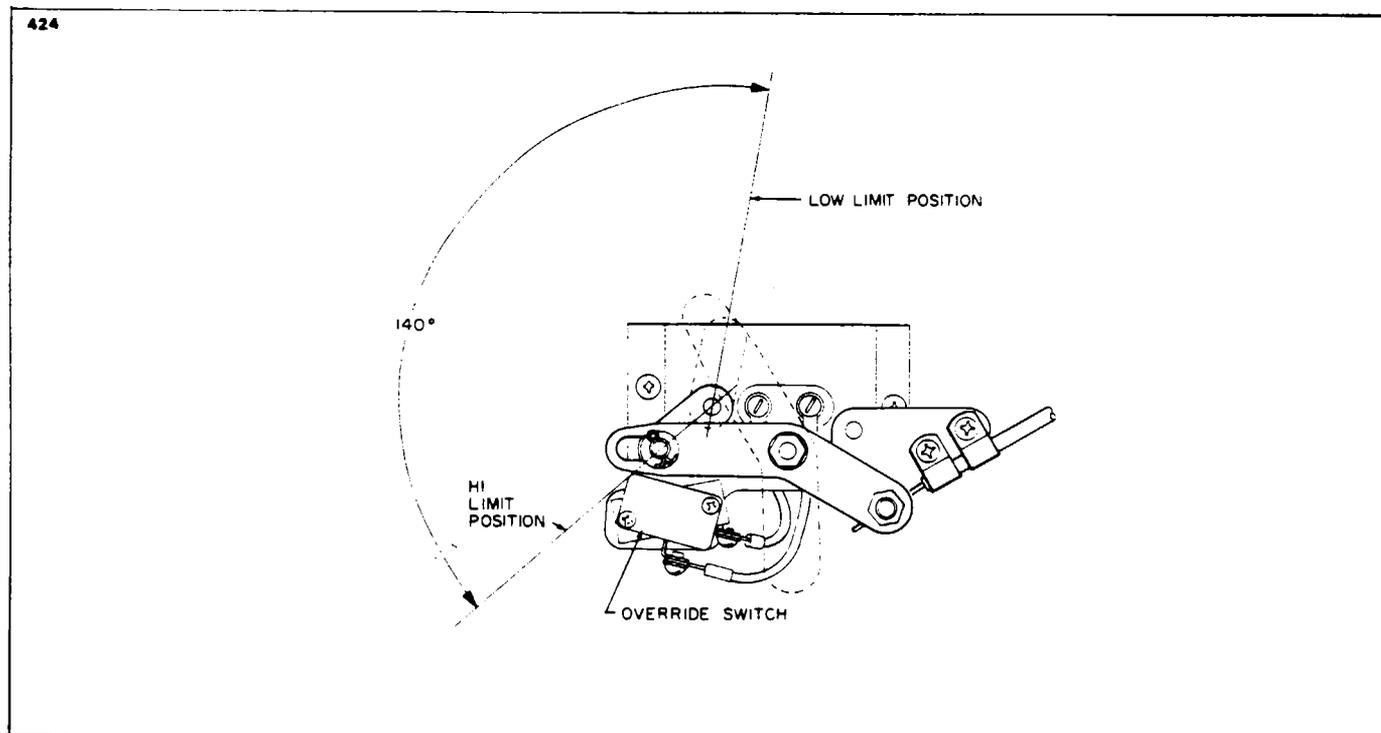

Figure 21-9. Left Side View - Duct Switch
**DUCT SWITCH. (Refer to Figure 21-9.)**